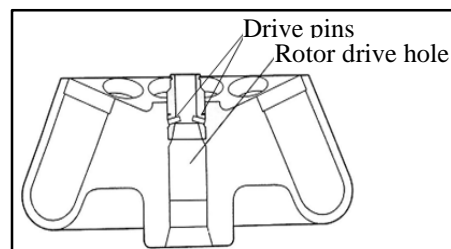

Fig.4 Rotor drive pin location
- Inspect the rotor drive pins (fig.4) to ensure that they are not damaged.